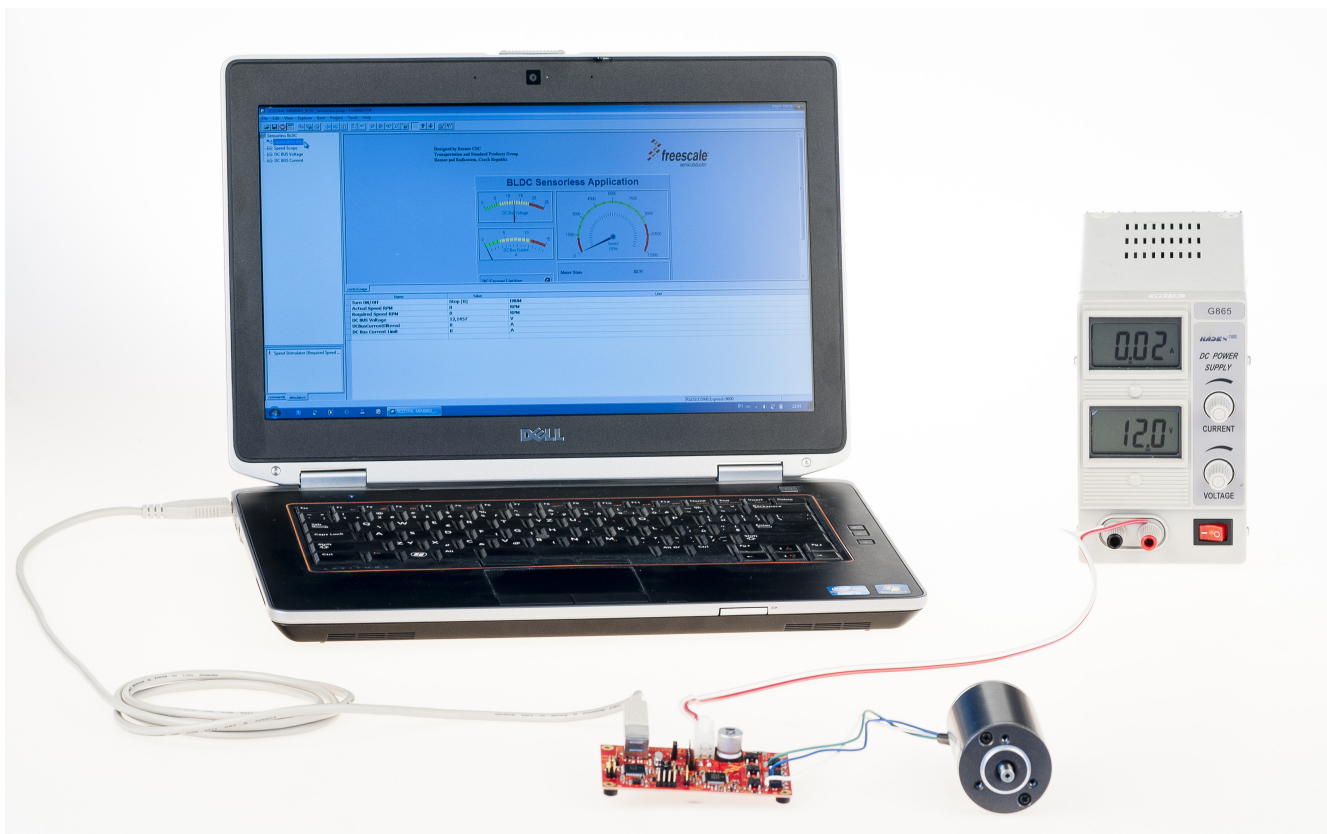

Figure 5-1. S12ZVML-MINIBRD set-up
This chapter describes how to set-up the S12ZVML-MINIBRD board to control the BLDC motor, see Figure 5-1.
1. Connect BLDC motor, type LINUX 45ZWN24-90-B, with the S12ZVML-MINIBRD, pins JP1, JP2, JP3, see Figure 1-1 and Figure 5-1